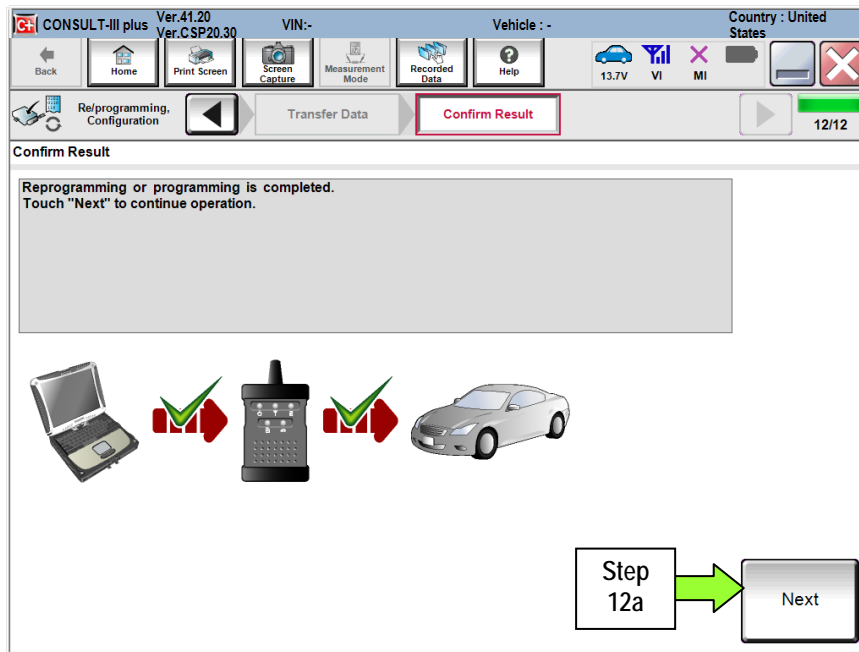

Figure 32
12. When the screen in Figure 32 displays, reprogramming is complete.